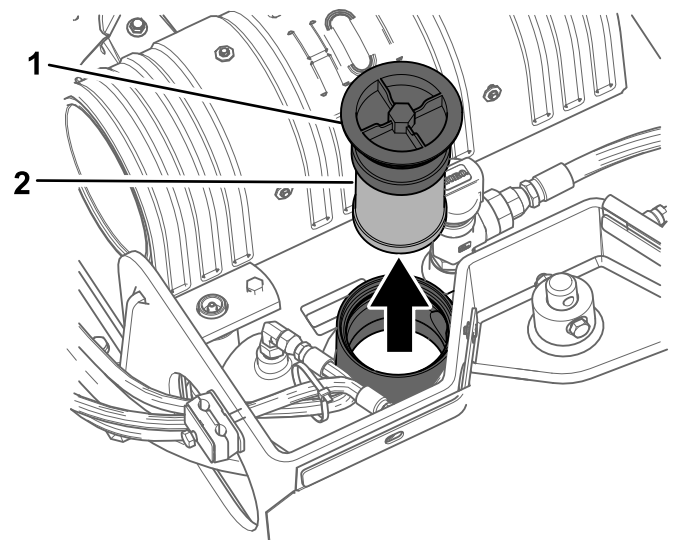

Figure 58
5. Clean the area around the filler neck of the hydraulic tank and remove the cap and filter from the filler neck using a socket (Figure 58).
4. Remove and discard the old filter (Figure 58).
5. Install the replacement hydraulic filter and filler cap (Figure 58) and torque the bolt on top to 21 to 25 N·m (200 to 240 inch-lb).
5. Remove the hydraulic-tank filler cap and filter (Figure 58).
10. Install the hydraulic filter and filler cap (Figure 58) and torque bolt on top to 21 to 25 N·m (200 to 240 inch-lb).